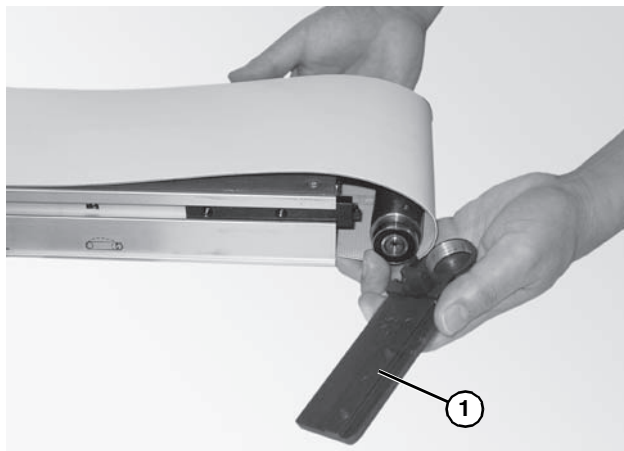

Figure 37
3. Remove the head plate (**Figure 37, item 1**) from the conveyor frame.